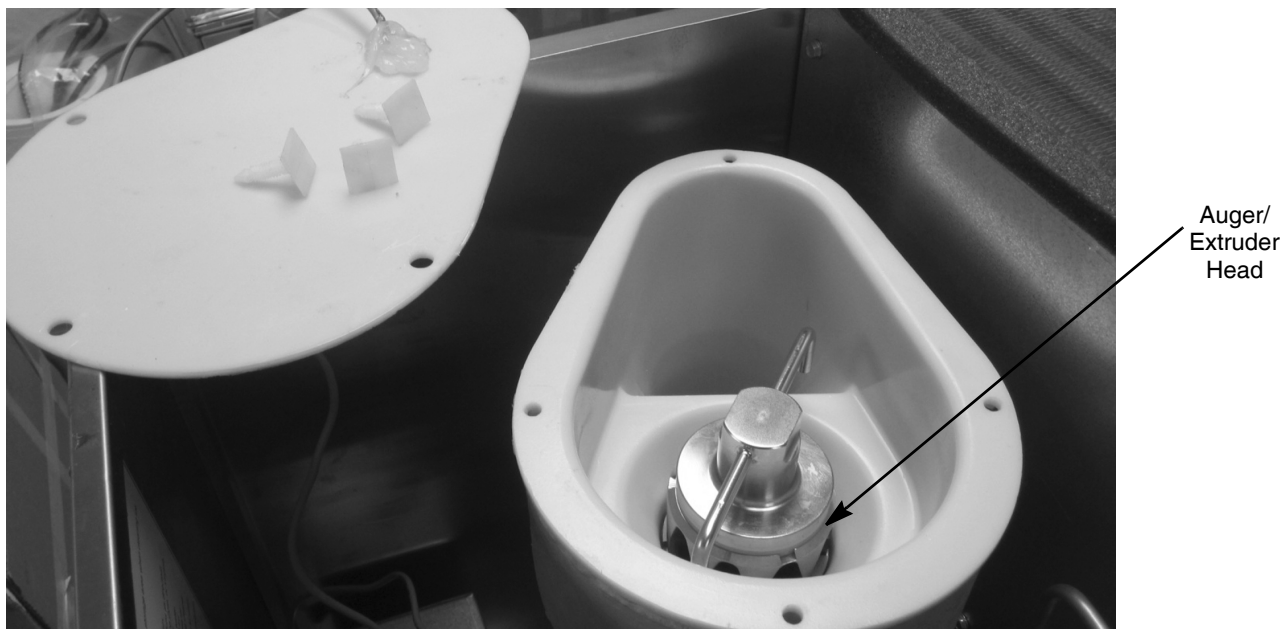

Figure 27.
1. Install the extruder head on top of the evaporator, as shown in Figure 27.